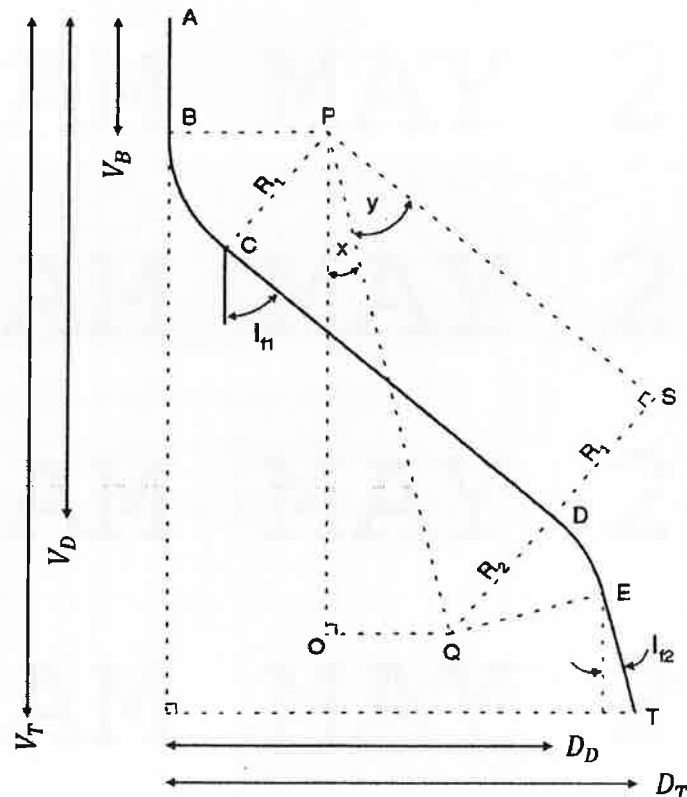

FIGURE Q1: Well profile
- i. There are **SEVEN (7)** pages in this Question Booklet including the cover page and appendices.
1. A typical build, hold and drop well trajectory is shown in **FIGURE Q1**. Given that the surface coordinates are (0 ft, 0 ft), the target coordinates are (3,500 ft, 4,800 ft). TVD of the production zone is 12,000 ft, the rate of build-up is $1.5^\circ/100$ ft, TVD of first deviation is 3,000 ft, the rate of drop-off is $1.5^\circ/100$ ft, TVD at the end of drop-off is 11,000 ft and the final inclination at target is 0 degree.